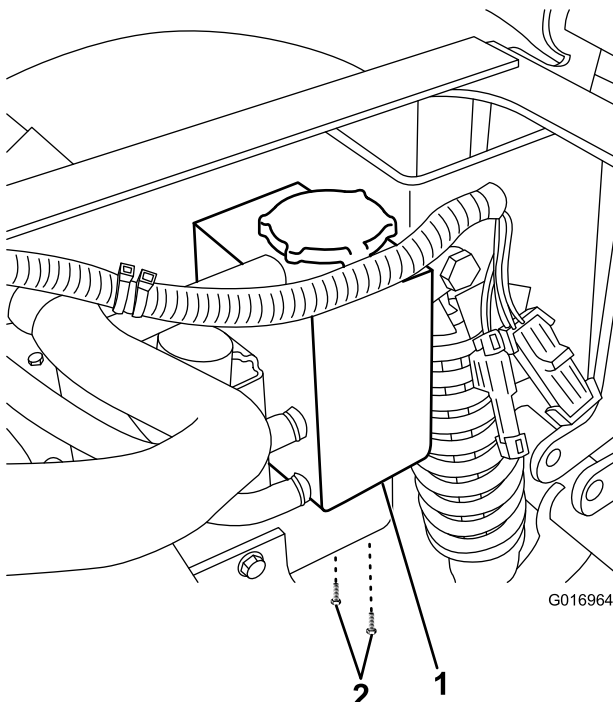

Figure 5
1. Locate the radiator overflow tank on the right rear frame of the engine compartment (Figure 5).
2. Remove the 2 bolts underneath the tank that attach it to the frame (Figure 5).